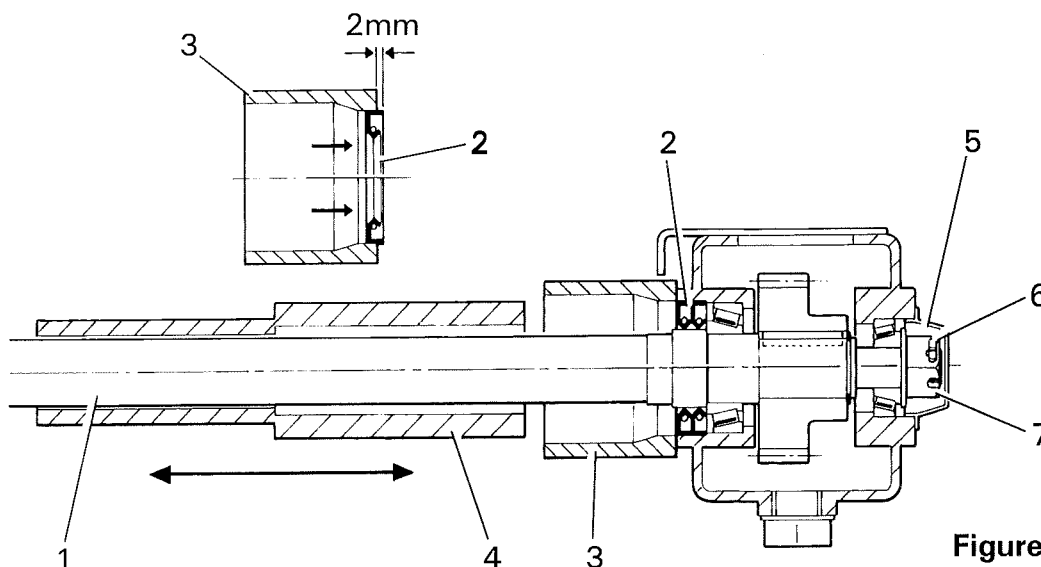

Figure 43
The cleaner unit roller shafts (*item 1, figure 43*) are each fitted with an oil seal (*item 2, figure 43*) which is press-fitted into the gearbox casing. The seals prevent loss of oil from the gearbox and also prevent the ingress of dirt. If leakage is apparent, the seals can be replaced in situ by using the guide sleeve and slide hammer service kit.
2. Prise out the worn seal (*item 2, figure 43*) taking care not to damage the seal aperture in the gearbox. Clean the seal aperture and the surrounding face of the gearbox.
4. Push the new seal into the compression ring (*item 3, figure 43*) until the seal protrudes approximately 1-2mm beyond the ring face (*see figure 43*). Slide the compression ring complete with seal over the roller shaft (*item 1, figure 43*) and locate the seal into the aperture.
5. Locate the slide hammer (*item 4, figure 43*) over the roller shaft and, holding the compression ring and seal firmly against the gearbox face, bump the seal into the gearbox. If required, a second seal can be fitted behind the first to give additional backup.
1. Clean the loose soil from around the gearbox face and prise out the end cap (*item 5, figure 43*).
2. Remove the split pin (*item 6, figure 43*) from the castellated nut (*item 7, figure 43*) and tighten the nut to a torque of 22 lb/ft.
3. Check the roller shaft (*item 1, figure 43*) again for free play.
4. Refit the split pin (*item 6, figure 43*) in the next clear hole, tightening the nut a maximum of one flat if needed.